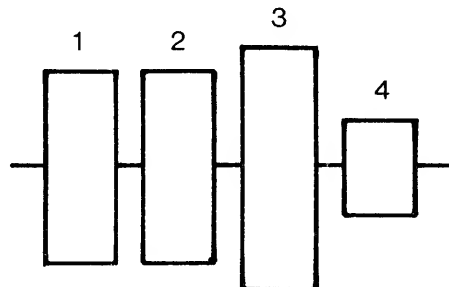

Figure 4-10. Head Azimuth Acceptable Lower Limit
5. Figure 4-10 depicts an azimuth of exactly minus 9, 12, or 18 minutes, depending upon the manufacturer of the diskette. This is the lower limit of allowable error. Bursts 1 and 2 are of equal amplitude. If this signal is observed, the Cats Eye alignment should be checked.